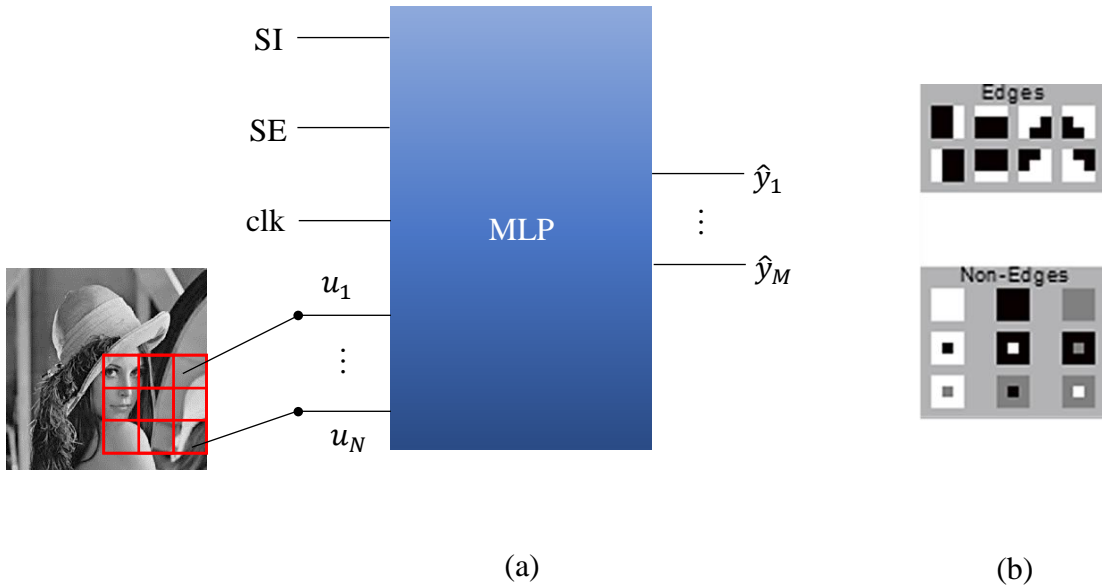

Figure 3. (a) Network setup and (b) training vectors.
- The script trains the network using an optimization algorithm called resilient backpropagation (RPROP), using the training vectors shown in Figure 3(b). It is not required that you understand the training algorithm implemented by the MATLAB script.
- Perform functional testing of the MLP using the parameters in Table 1, where the values in the weight matrix are found from the previous step. Figure 3(a) shows
$\mathbf{u}$	Test using all of the training vectors shown in Figure 3(a).